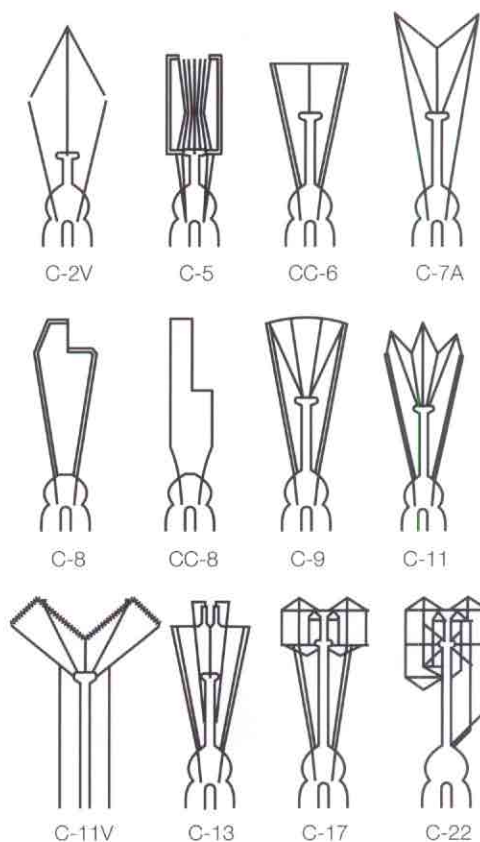

Figure 5. Incandescent Lamp Filament Configuration and Mount Design
Incandescent lamps are designated with a letter to indicate the filament wire construction and an arbitrary number to identify the mount shape. The filament may be a straight wire (S), a coil (C) or a coiled coil (CC). For example, a C-9 filament is a coiled wire of Form 9. Examples of some filament configurations are shown in Figure 5. A more complete listing of filaments can be found in the Large Lamp Catalog.